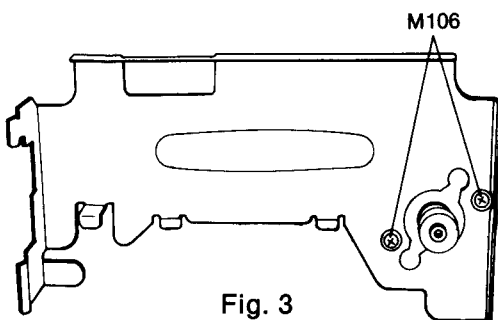

Fig. 3
- Remove the two screws M106 (2.6×3)mm. (Fig. 3)